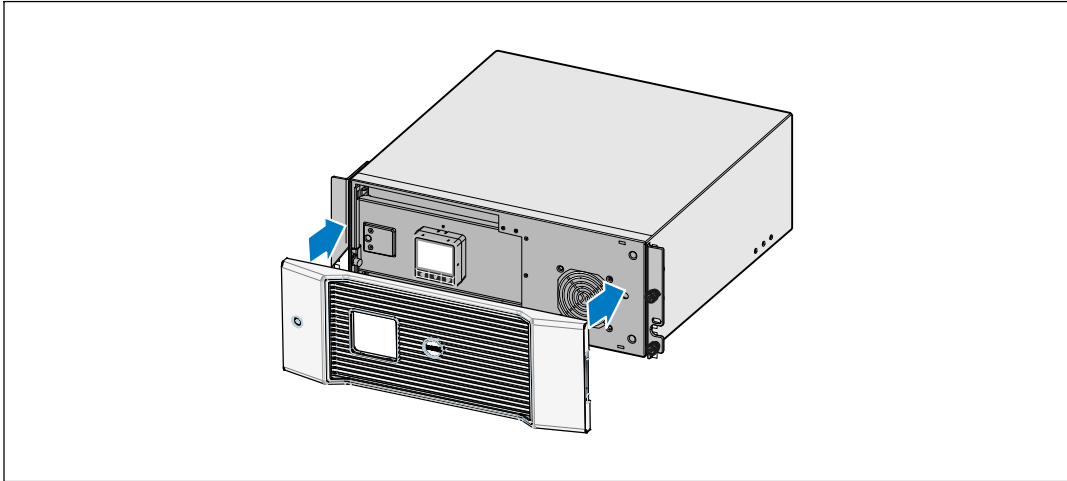

Figure 29. Replacing the UPS Front Cover
- 5 Replace the UPS front cover (see Figure 29).